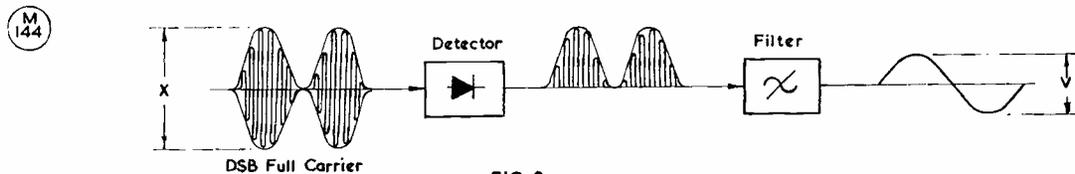

FIG. 9
The gain of SSB over AM is worked out as follows: Consider first what a DSB full carrier (AM) signal will produce into the audio amplifier section of your Rx, as shown in Fig. 9 above.